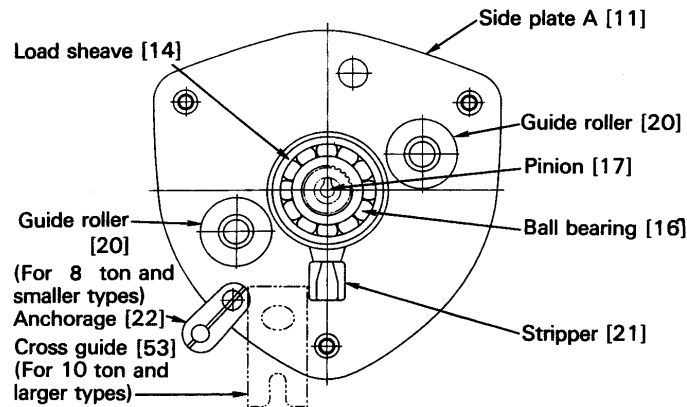

Figure 6-3 Side Plate Assembly
- 5) Grease the balls of the ball bearing [16]. Insert it with the snap ring side down to the shaft of the load sheave [14]. See figure 6-3.